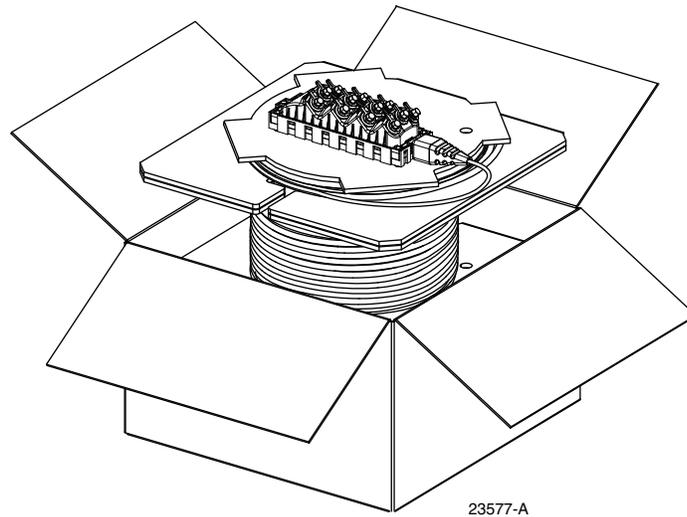

Figure 5. Typical Distribution Cable on a Spool
**Spooled Cable Handling:** If the MST cable is coiled on a spool, remove the spool from the box as shown in Figure 5. Leave the MST on top of the spool and place the spool on a vertical arbor. If the MST was ordered with the **standard** spooling option, locate the **free** end of the cable. Carefully pull the cable away from the spool allowing the spool assembly to rotate about the vertical arbor. If the MST was ordered with the **reverse** spooling option, carefully unspool the cable starting with the **MST** end of the cable.